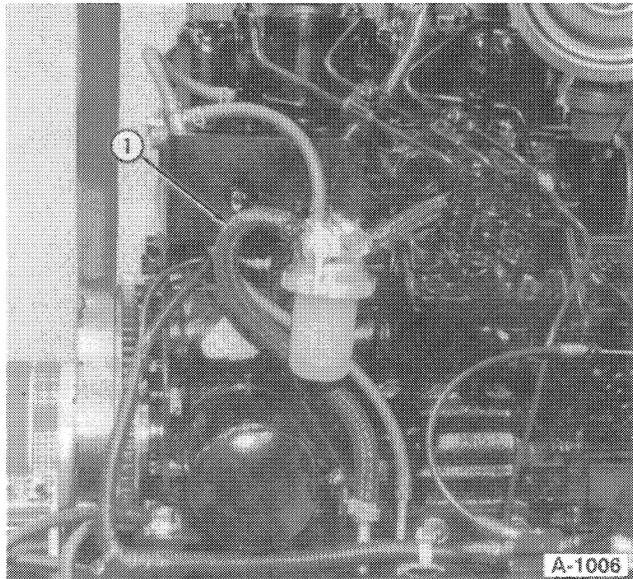

FIGURE 1-10
10. Disconnect the flexible fuel line hose, 1, from the fuel filter, Figure 1-10.